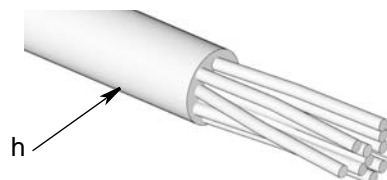

FIG. 14
1. Remove 2 to 3 inches of the outer insulation (h) from bare end of the cable as shown FIG. 14.